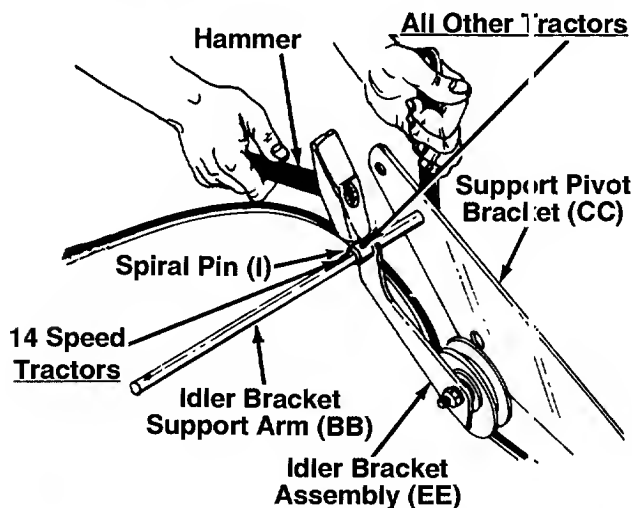

FIGURE 3.
- AA (1) Carriage Bracket Assembly
- BB (1) Idler Bracket Support Arm Assembly
- CC (2) Support Pivot Brackets
- DD (2) Compression Springs
- EE (1) Idler Bracket Assembly
- FF (1) Lift Rod Assembly
2. Preassemble the idler bracket support arm (BB) to one support pivot bracket (CC) and idler bracket assembly (EE) as follows.
A. Place the idler bracket support arm down through the hole in support pivot bracket shown in figure 3. Then slide the idler bracket assembly over the idler bracket support arm.
B. Secure the idler bracket assembly to the idler bracket support arm using spiral pin (I), using the hole in the idler bracket support arm as follows. See figure 3.